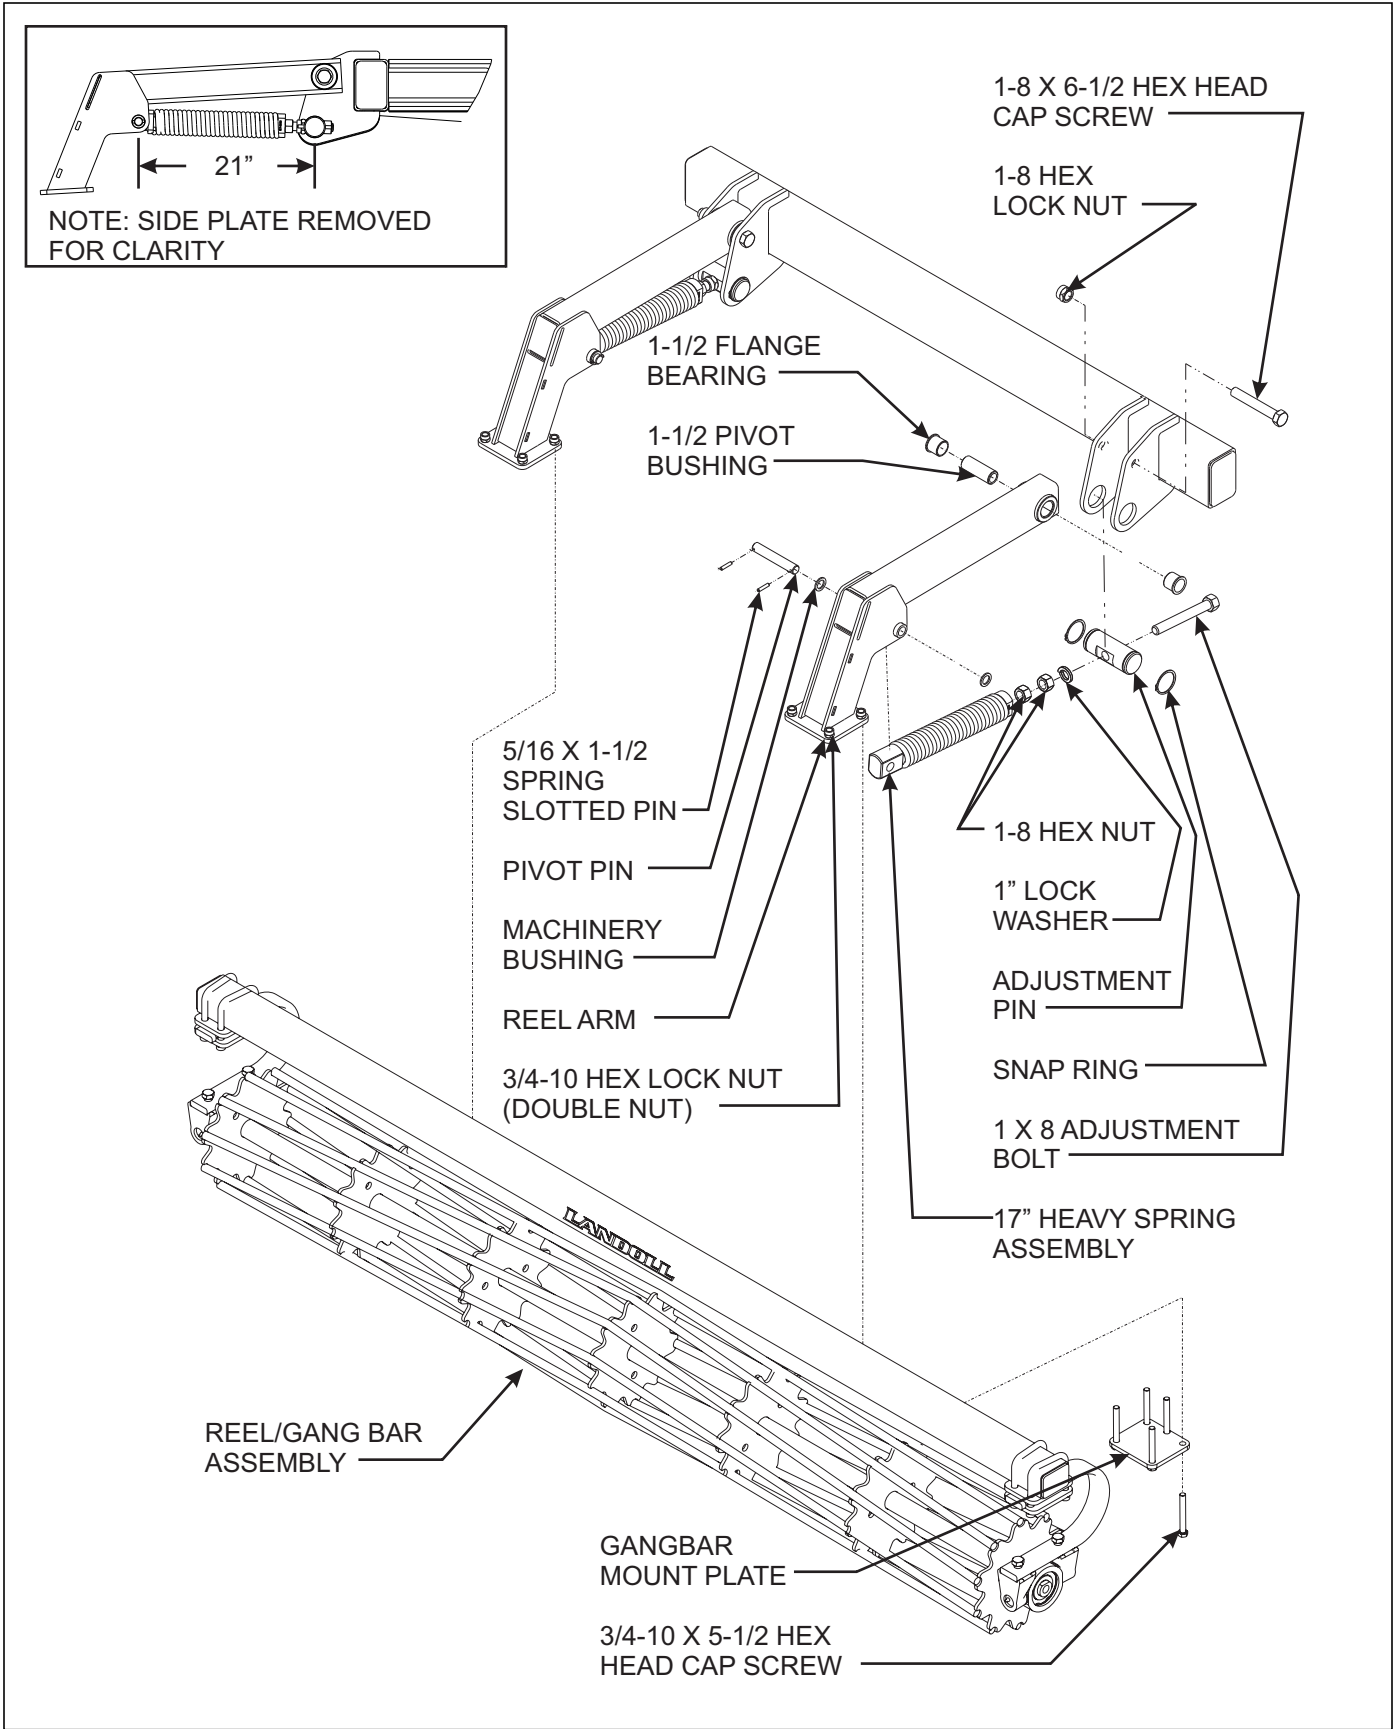

Figure 3-12: Conditioner Single Reel Installation
Refer to *Conditioner Single Reel Installation* shown in **Figure 3-12** for single reel installation or *Conditioner Double Reel Installation* shown in **Figure 3-13** for double reel installation.
1. Slide the adjustment pin through the rear plates of center and wing frames, secure with (2) 2-1/2 snap rings.
2. Assemble the 1-8 x 9 adj bolt through adjustment pin on frame, 1" lock washer, (2) 1-8 hex nuts, and 17" heavy spring assembly.
5. Assemble 17" heavy spring assembly to reel arm using 1" pivot pin, and 5/16 x 1-1/2" spring slotted pins. Set pin centers to 21" dimension as shown in **Figure 3-12**.
6. Attach single reel/gang bar assembly to reel arms using gang bar mount plate, 3/4-10 x 6 hex head cap screws and double hex lock nuts as shown in **Figure 3-12**. Refer to **page 2-8** for single reel gang bar placement locations.